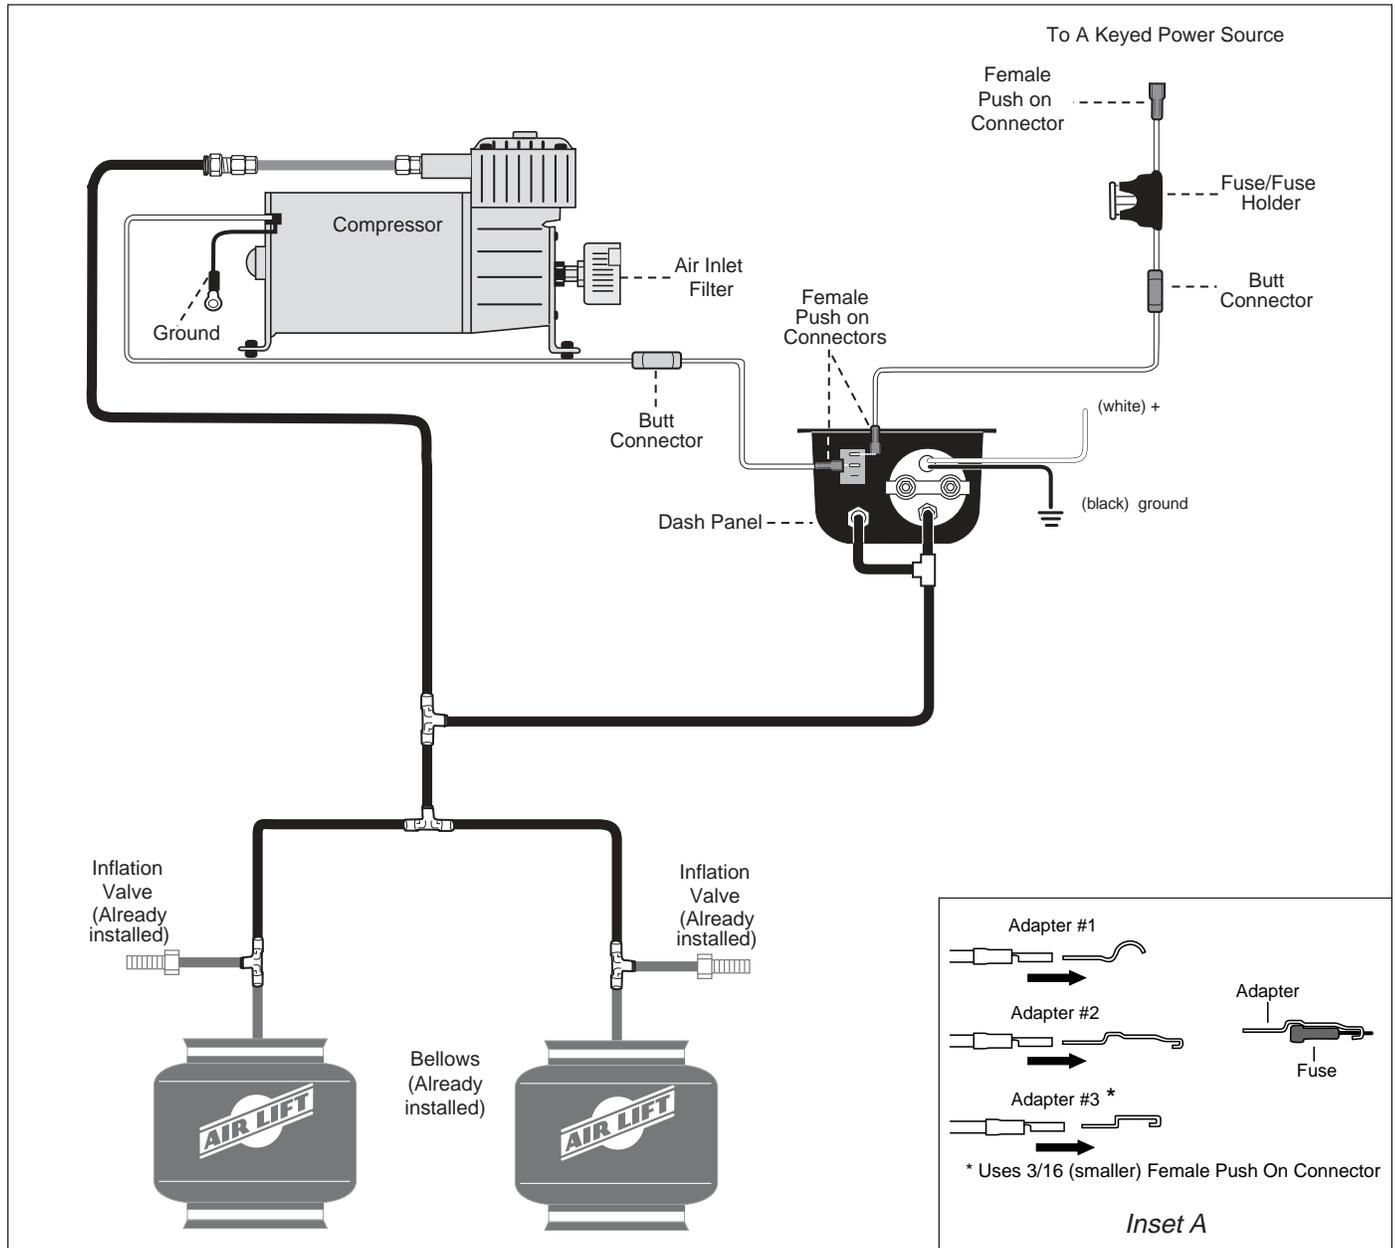

Figure 1
3. Connect the (red) wire from the panel to the (red) wire on the compressor using a blue butt connector (Figure 1). Connect the other end of the wire to the push switch using the blue $3/16$ female push on connector. With your thumb against the front side of the switch, push the connector onto one of the terminals on the back of the ON/OFF switch on the gauge panel
5. Determine the length of supplied (red) wire required to connect the dash panel to the fuse assembly. Cut and crimp the wire into the butt connector (Figure 1). Connect the other end of the wire to the push switch using the blue $\frac{3}{16}$ " female push on connector. With your thumb against the front side of the switch, push the connector onto the remaining terminal on the back of the ON/OFF switch on the gauge panel.
4. Determine the location of the third tee. Cut the air line between the first two tees and install a third (Figures 1 & 5).
7. Determine the closest and easiest area to connect the gauge panel to the air line between the compressor and air springs. Measure the distance between these two points and cut the air line and install the last tee (Figures 1 & 5).